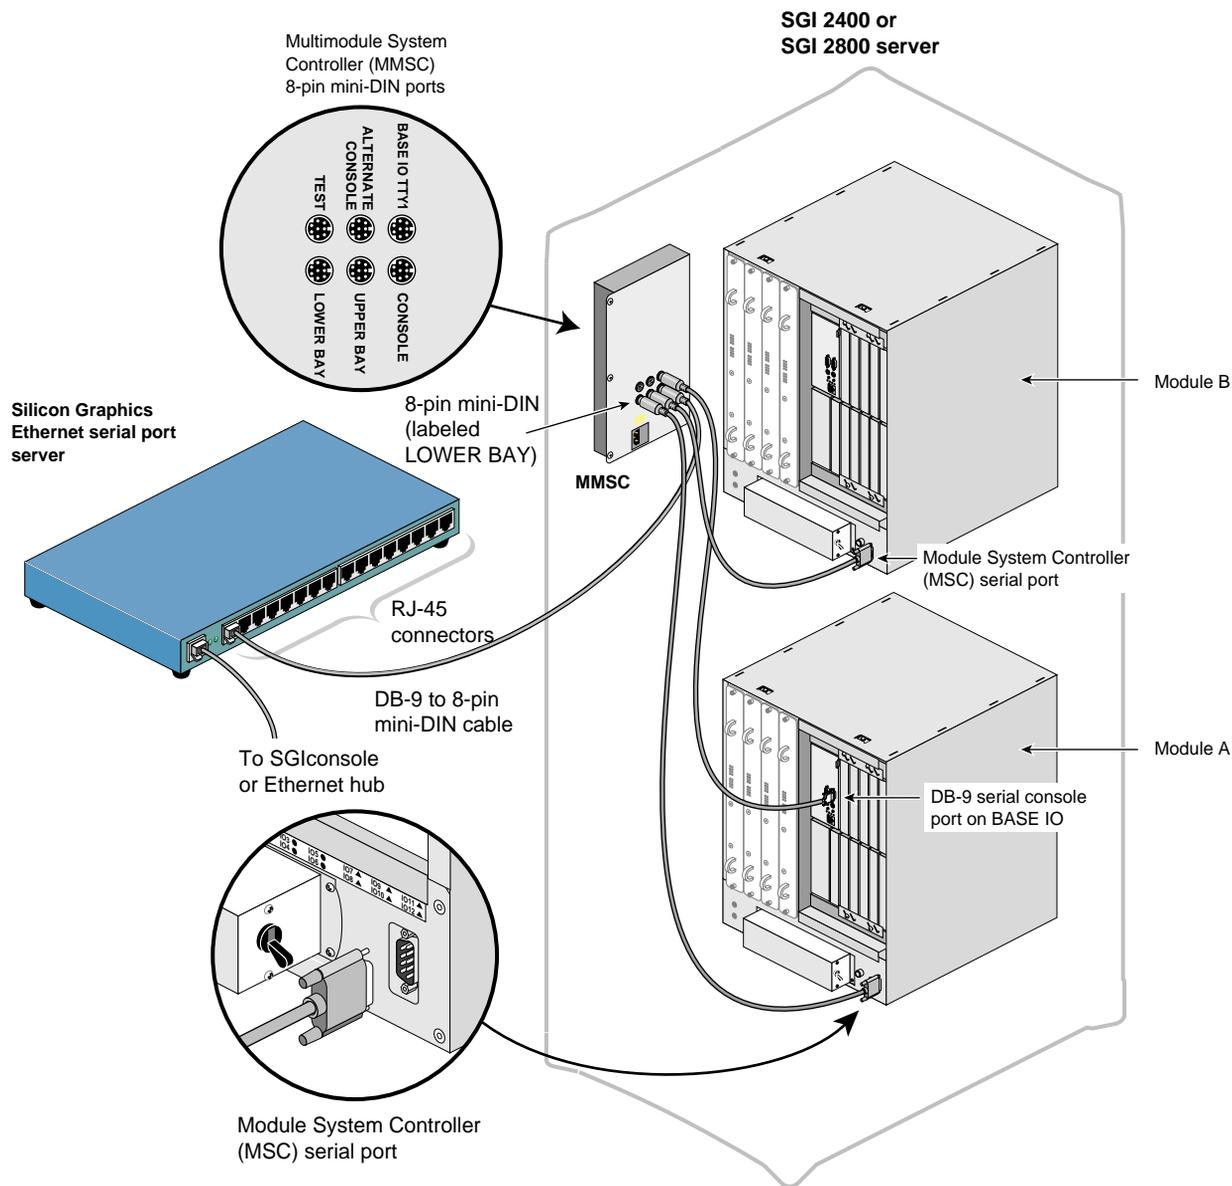

Figure 5-23 Connecting the MMSC Lower Bay Connector to the Module A MSC Serial Port
9. Connect the 8-pin connector of the third 8-pin mini-DIN to DB-9 cable to the MMSC connector labeled “Lower Bay.” Connect the DB-9 connector end of the same cable to the Module System Controller (MSC) serial port connector of the SGI 2400 or SGI 2800 server module A located in the lower bay of the rack. See Figure 5-23.